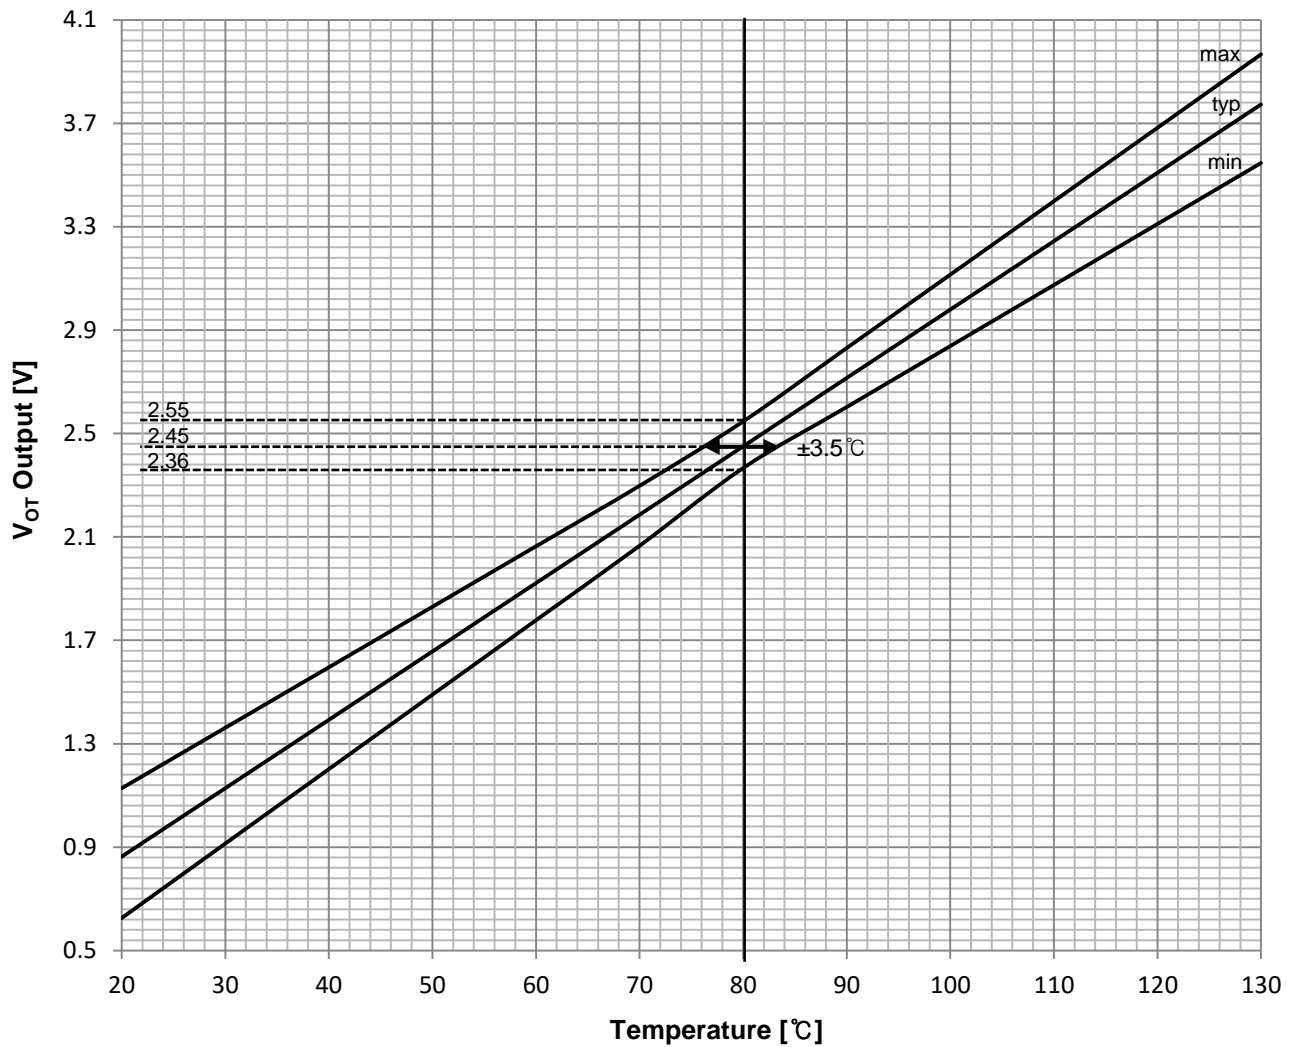

Figure 3. Temperature of LVIC vs.  $V_{OT}$  Output Characteristics
- The IPM does not shutdown IGBTs and output fault signal automatically when temperature rises excessively. When temperature exceeds the protective level that the user defined, the controller (MCU) should stop the IPM. Temperature of LVIC vs.  $V_{OT}$  output characteristics is described in Figure 3.